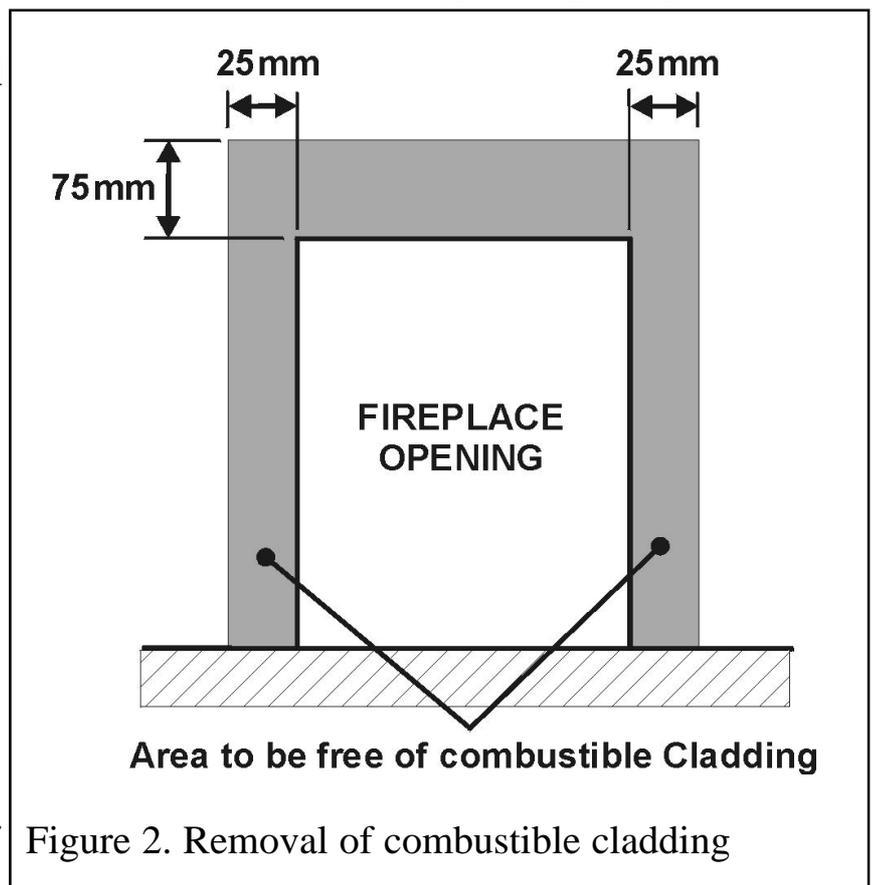

Figure 2. Removal of combustible cladding
3.14 If the appliance is to be fitted against a wall with combustible cladding, the cladding must be removed from the area shown in figure 2